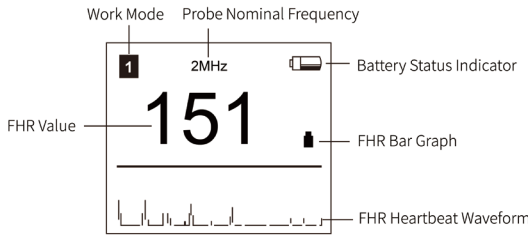

Fig.3-4 LCD display
① Power on by pressing the Power button.The LCD display is as Fig.3-4.
② Find the position of fetus: